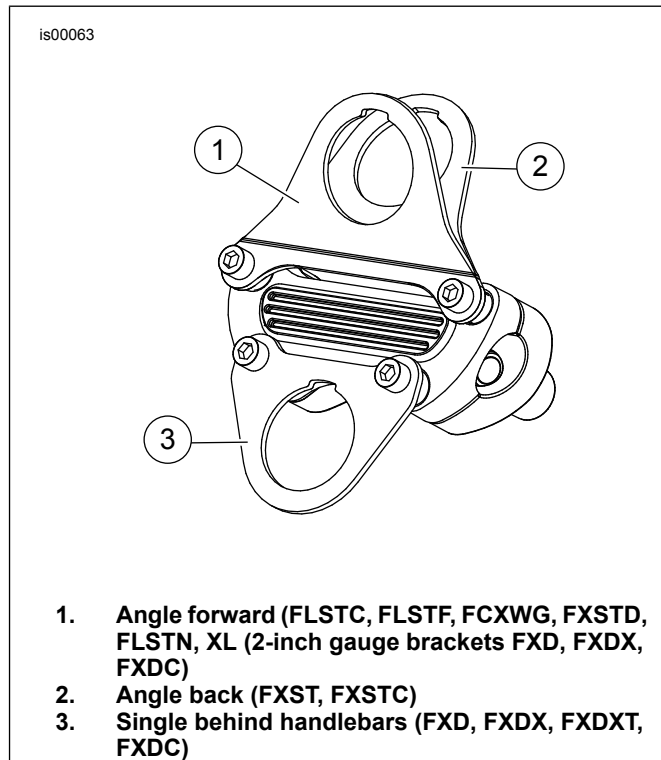

Figure 1. Handlebar Clamp Bracket Orientation (illustration for placement/identification)
1. See Figure 1. Remove two handlebar clamp screws depending on the bracket variation for the model and year.